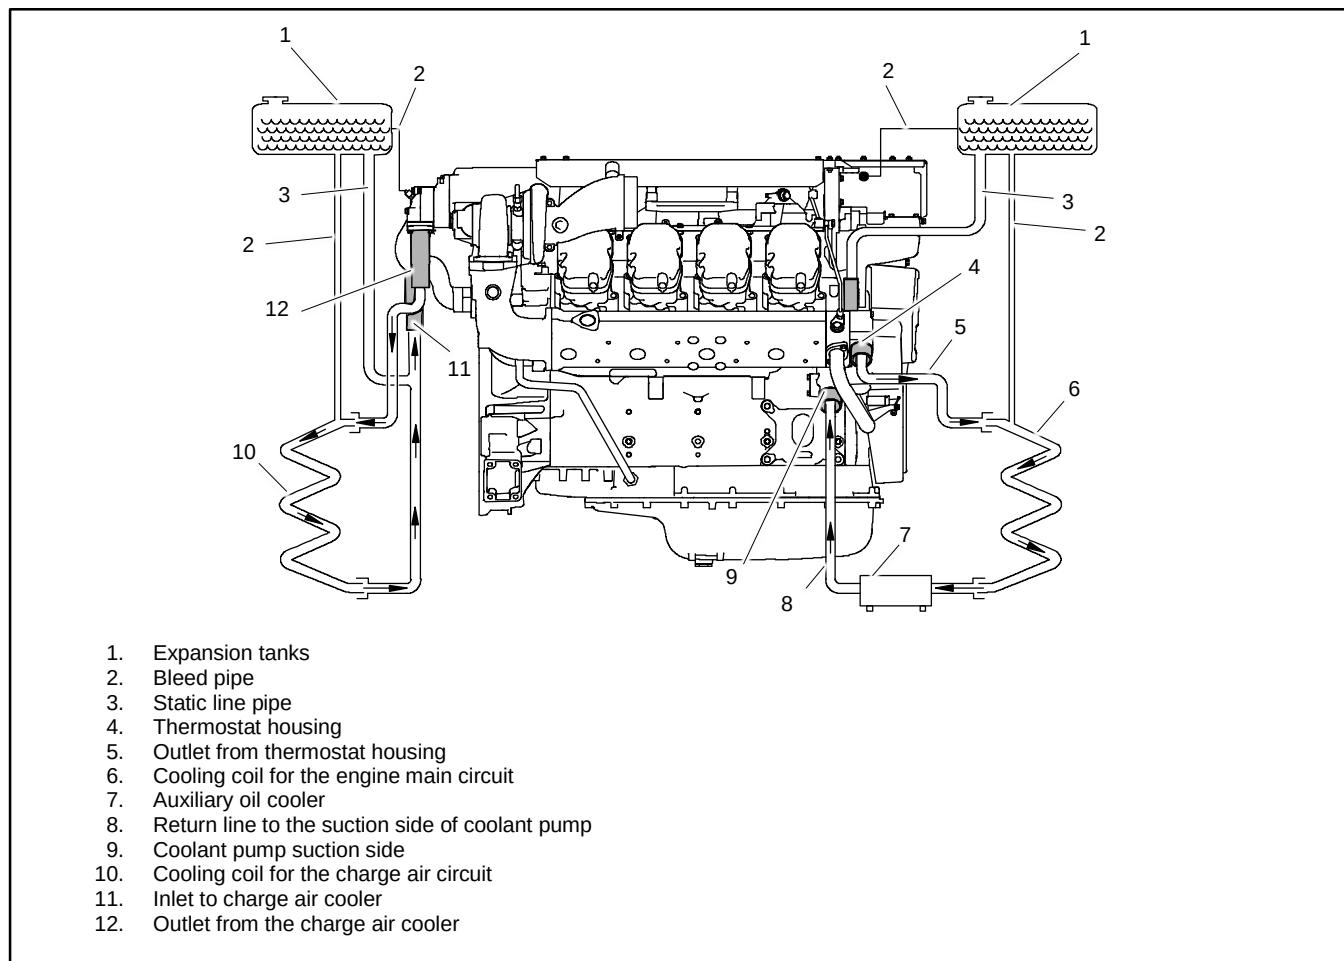

Figure 71 Keel Cooling Circuit and Auxiliary Oil Cooler Connections (500EOZCS/450EFOZCS Models with 2 Coolant Circuits)
The coolant flows from the main circuit cooling coil to the suction side of the coolant pump. From there the coolant flows through the engine and to the thermostat housing (See **Figure 71**, item 4). When the thermostat opens the coolant flows from the thermostat housing straight back to the main circuit cooling coil.
Charge air is cooled in a separate coolant circuit with an extra coolant pump. The extra coolant pump is mounted on the engine as shown in **Figure 71**. The charge air circuit has no thermostat, which means that coolant circulates continuously through the charge air cooler.
This coolant circuit must be equipped with a separate expansion tank as shown in **Figure 71**.